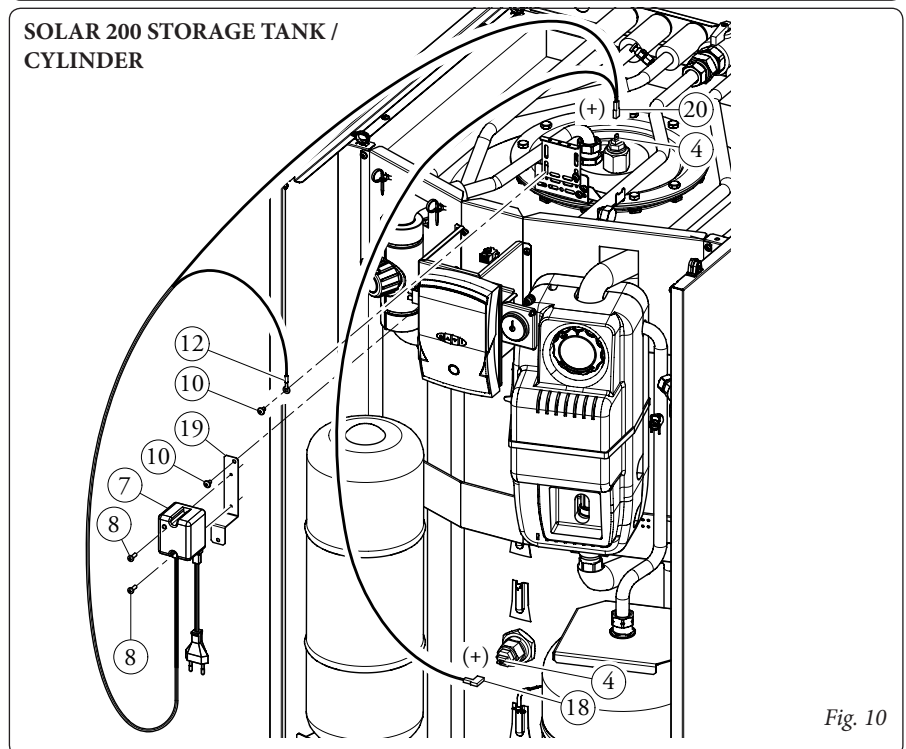

Fig. 10
- Assemble the control unit (7) with the screws (8) on the fixing plate (19) (Fig. 10).
- Assemble the plate (19) on the storage tank / cylinder using the screw (10).
- Make the earthing connection with black cable (12) on the storage tank / cylinder using the screw (10).
- Connect the red cable connectors (20 and 18) to the fastons on the anodes (4). Intermediate faston red cable (20) on the storage tank / cylinder cover, terminal faston red cable (18) on the storage tank / cylinder jacket.
N.B.: the connector (18) can be replaced with the flag connector supplied with the relative protection in order to improve connection with the lower anode